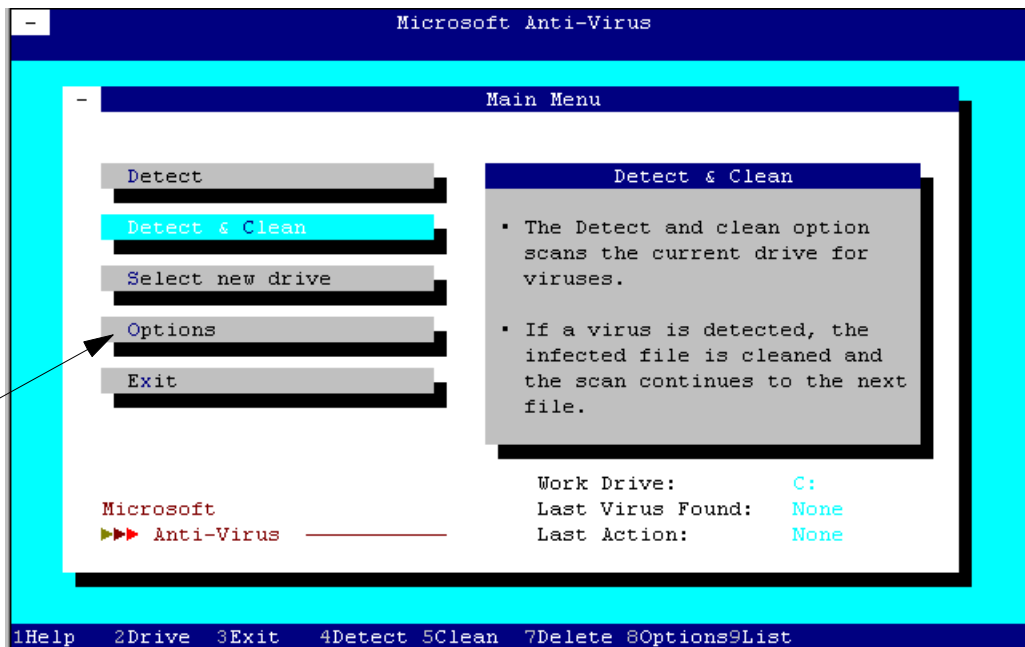

Figure A.21 Microsoft Anti-Virus Program
2. At the DOS prompt, enter MSAV. This starts the **Microsoft Anti-Virus** program. Refer to Figure A.21
3. Click the **Options** button (Figure A.21). This brings up the **Options Setting** dialogue box.
5. Click the **Select new drive** button (Figure A.21). The available drives will appear below the title bar.